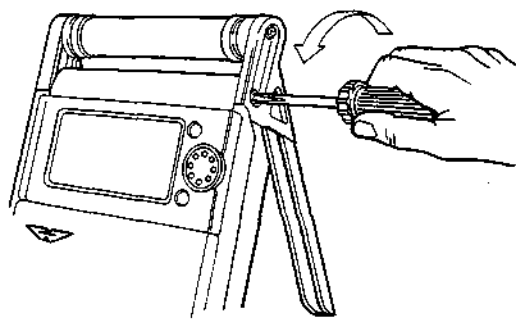

Figure 26. Support arm adjustment
2. Using a suitable screwdriver, turn the tensioning screw (Fig 26) anti-clockwise half a turn.